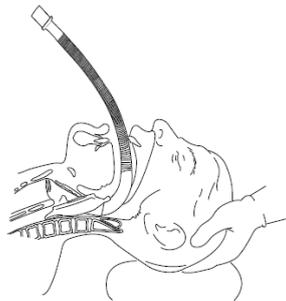

Figure 7: Advance the device into the lower pharynx until resistance is felt.
6. Resistance should be felt when the distal end of the device meets final position in the lower pharynx. The device is now fully inserted. (Fig. 7)